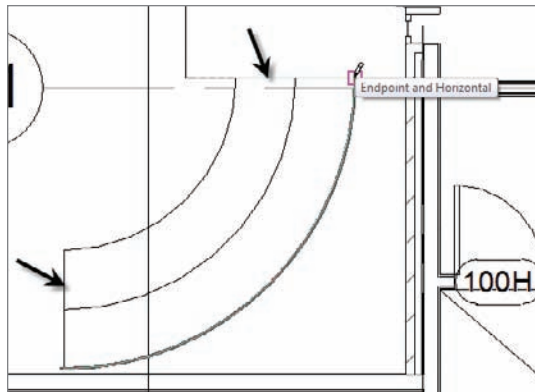

FIGURE 10.39 Adding two straight lines at each end of the arcs
13. Click the Line tool, make sure Offset is set to 0'0", and then draw a straight line at each end of the arcs, as shown in Figure 10.39.